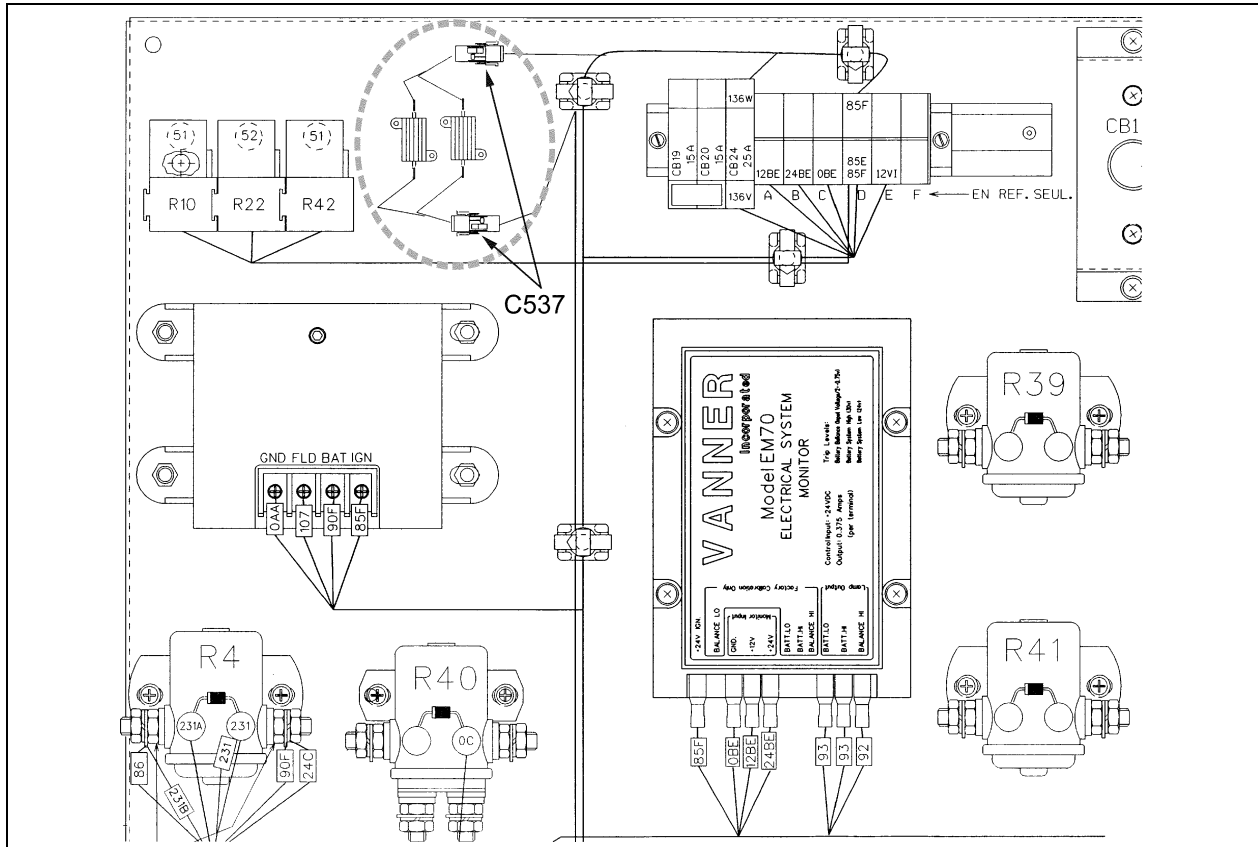

Figure 3: Main power compartment. Final aspect of connections for W2219 to X2809 vehicles.
3. Using an "A" drill size bit, drill two 3/32 in (2-3 mm) diameter holes in order to fix the electrical resistors as shown on figure 3.
4. Fix the electrical resistors to the electrical panel and connect them to the C537 connectors as presented on figure 3.